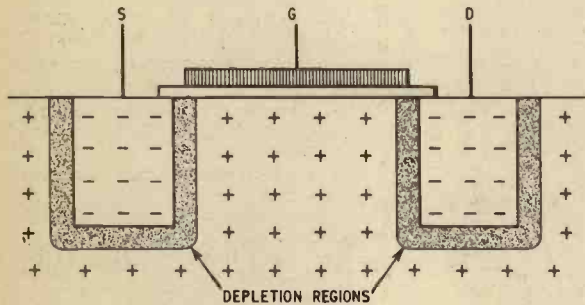
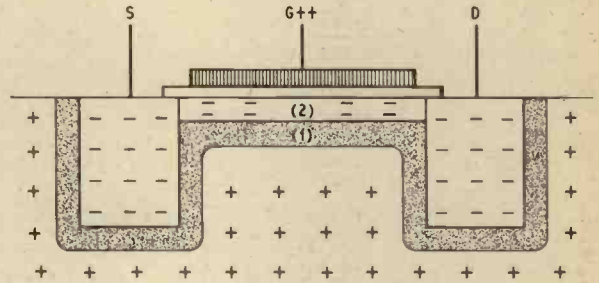
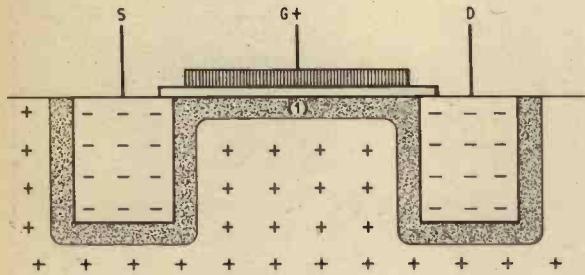

Fig. 9a. Equilibrium situation, no voltage applied
Fig. 9c. Gate made more positive, inversion layer (2) formed
Fig. 9b. Gate made slightly positive
A simplified theory of the operation of the device is illustrated in Fig. 9 (not to scale). Fig. 9a shows the equilibrium situation with no voltages applied. If a small positive voltage is applied to the gate the action of the electrical field produces a depletion region (1) just below the surface of the substrate (Fig. 9b). In Fig. 9c an increase in gate voltage extends region (1) deeper into the bulk of the semiconductor and produces region (2). In this region the electron density actually becomes greater than the hole density; it behaves as if it were  $n$ -type material.